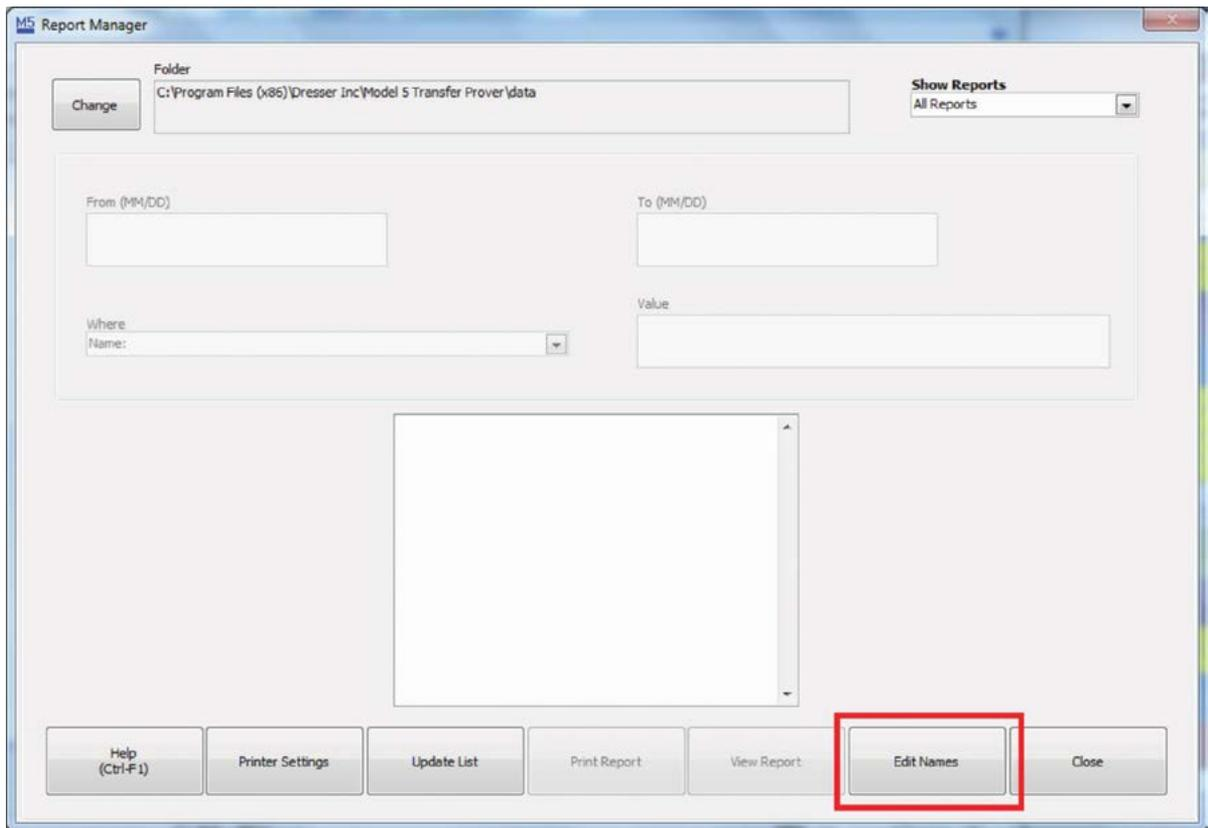

Figure 108: Edit Names Selection
2. Within the "Report Manager" Screen, select "Edit Names". See **Figure 108**.